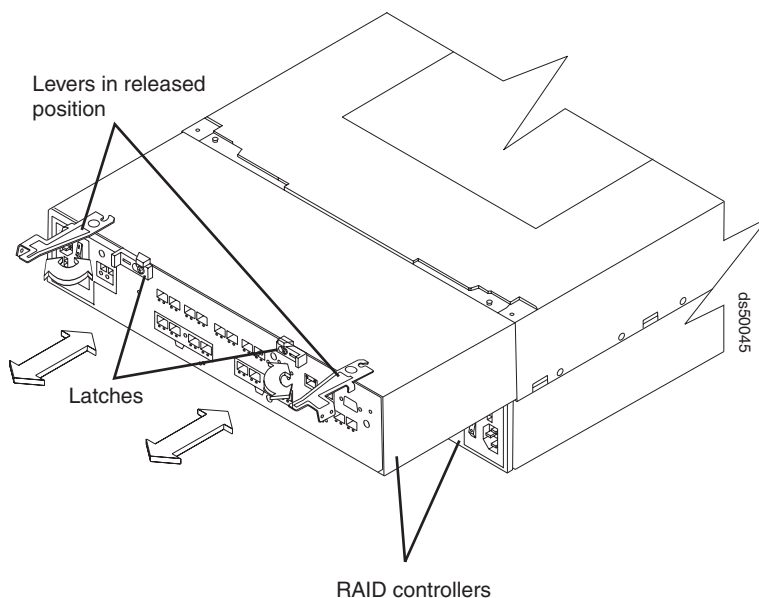

Figure 114. Removing the controller from the storage subsystem
- b. Use the levers to slide the controller from the storage subsystem chassis. (Figure 114 on page 184 shows a controller sliding from the storage